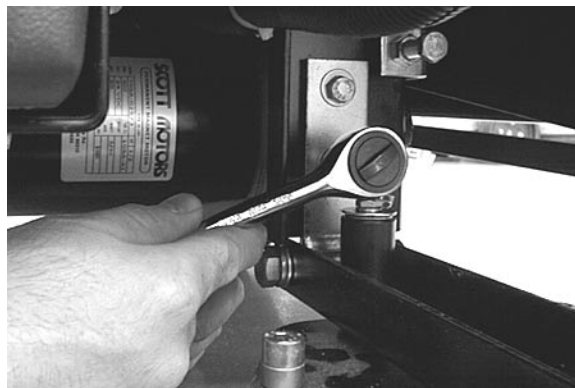

Fig. 29
- f. Once squeegee is parallel to floor, tighten both squeegee mount bracket screws (Figure 29).